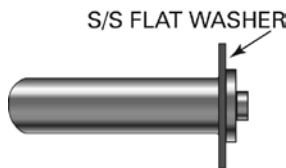

Figure 5
1. Slip the 7/16SAE S/S flat washer over the body of the Pull-Lock fitting. (Figure 5)